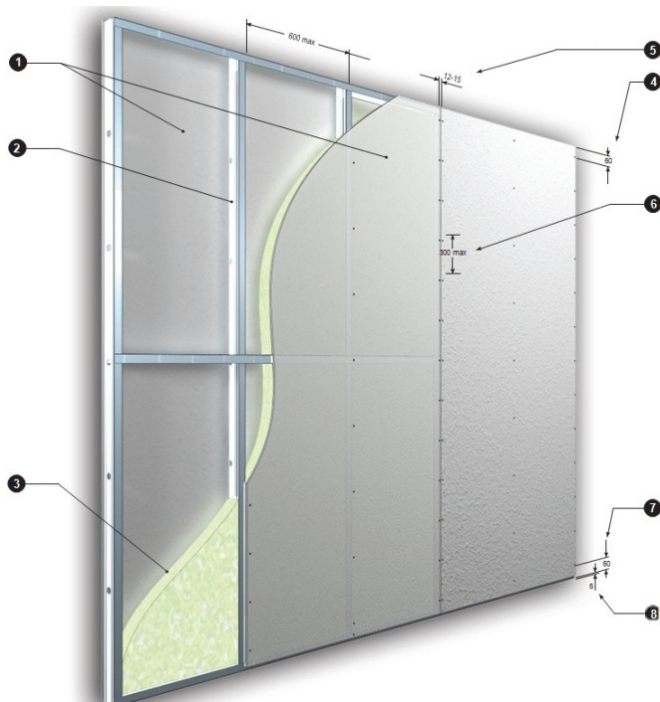

Figure 2.1 - Steel Fire Wall Installation Detail (Vertical)
See figure 2.1 and 2.2 on the following page for installation details:
3. On a firewall system do not fix the sheet to the bottom or top plates of the frame. As can be seen in figure 2.1 and 2.2, the screws are 60mm from the top and bottom of the wall, one at each stud.